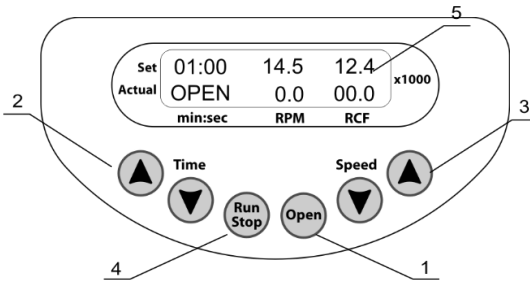
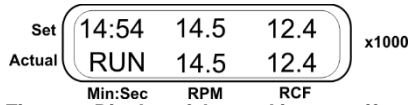

Figure 5. Control panel
Figure 7. Display of the working centrifuge
- 5.3. Press the **Open** key (fig. 5/1) and open the outer lid by lifting it upwards by hand. The display shows OPEN (see figure 5). The lid can be opened only when the rotor is stopped.
- 5.7. Use the ▲ and ▼ **Time** keys (fig. 5/2) to set the required time interval.
- 5.8. Use the ▲ and ▼ **Speed** keys (fig. 5/3) to set the required speed and required centrifugal force, using the centrifugal force readings (fig. 5/5). These parameters can also be adjusted during operation.
- 5.9. Press the **Run Stop** key (fig. 5/4) to start centrifugation. Blinking RUN indication and current speed is displayed in the lower line (fig. 7). The timer in the upper line starts countdown after the set speed is achieved (stable RUN indication).